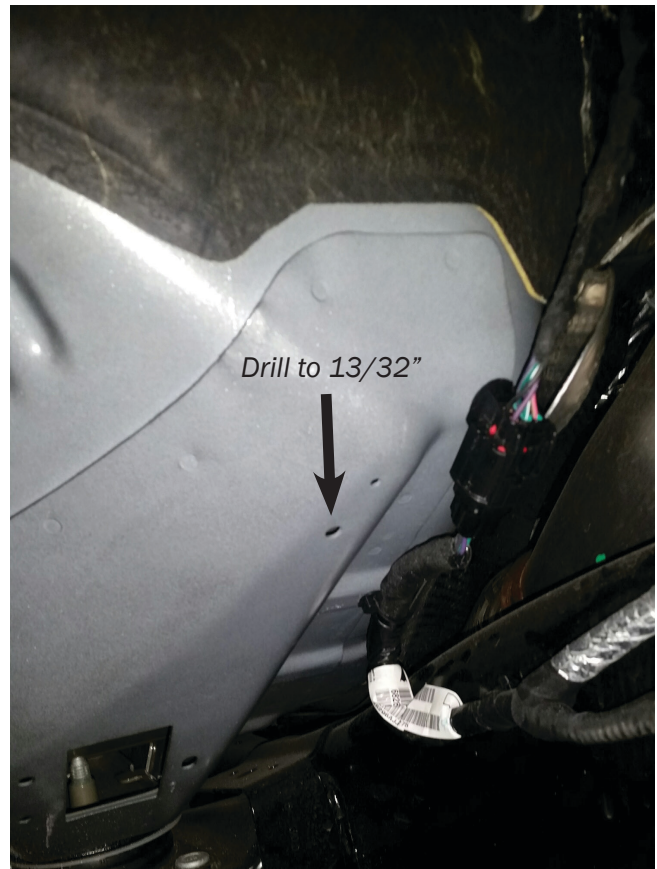

Figure 43 Left: Driver side Right: Passenger side
- A. Drill existing holes in the fire wall, one on each side, to 13/32" and install nutsert using nutsert tool (fig. 43).